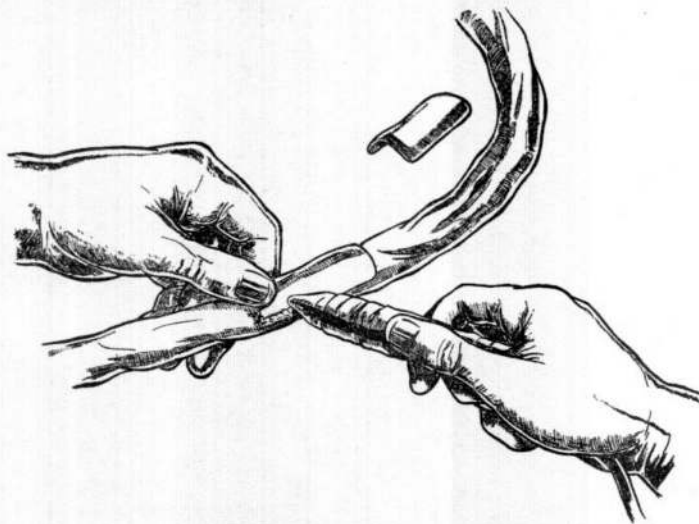

Fig. 12. Method of repairing P.V.C. conduit
52. Damaged P.V.C. conduit may be repaired quite successfully providing the damage is not excessive—that is, providing the holes are no larger than $\frac{3}{8}$ in. diameter and tears no longer than 4 in. Fig. 12 shows the method to be followed. Take a patch of P.V.C. large enough to cover the damaged part. Clean both patch and conduit with a rag dipped in gasoline, and dry thoroughly.